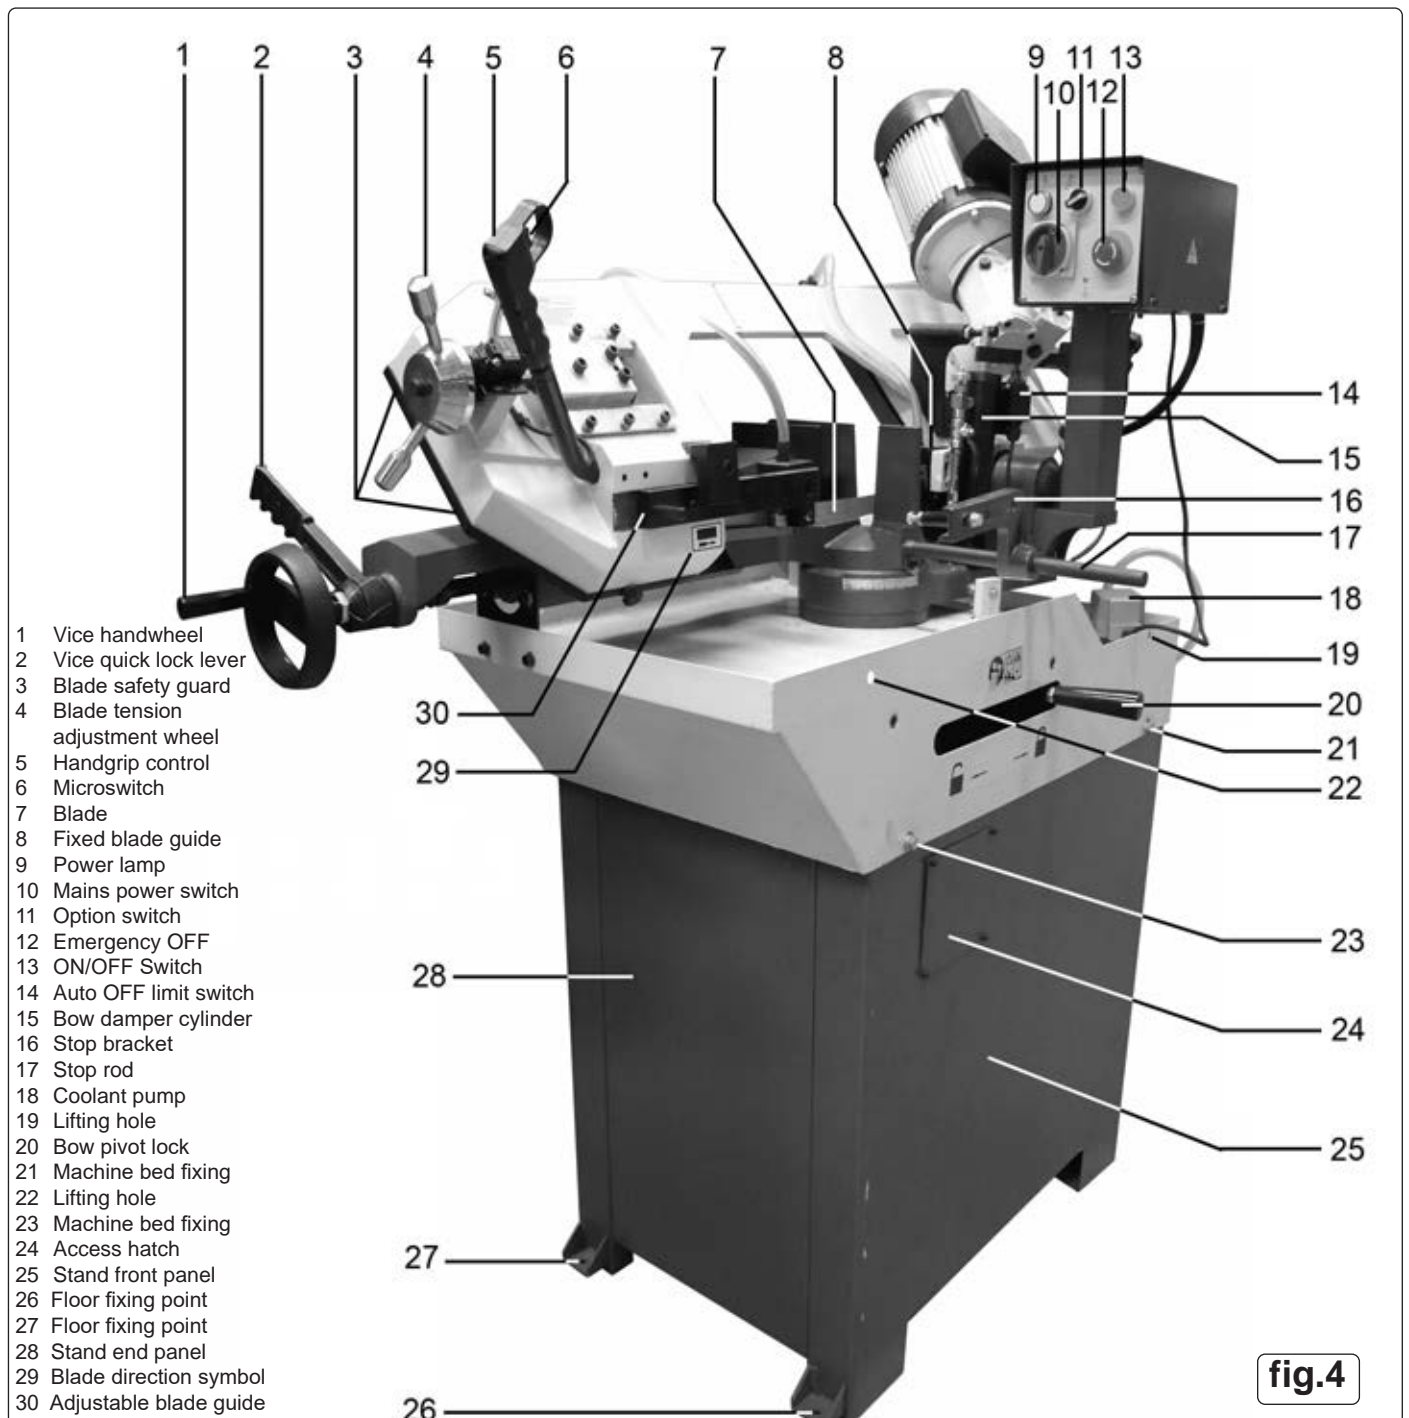

fig.4
- 5.1.2. Coolant is drawn from the coolant tank by the coolant pump (see Fig.4 - 18) and fed through a clear plastic tube to a valve situated on the top edge of the bow casting (see 'J' in Fig.9). When the valve is opened the coolant is fed down two separate pipes which deliver the coolant directly into each blade guide. The coolant is then deposited onto the machine bed where it flows to the lower level and returns to the coolant tank through the grill situated above it for recirculation.
- 5.9.6. When fitting the new blade ensure that it is the correct way round so that the teeth are cutting left to right as you face the machine. See blade tooth label on the front lower part of the bow casting. See 29 in Fig.4 .
- 6.6. Before starting the machine ensure that the bed cannot rotate by moving the lever on the front face of the machine bed to the locked position i.e. fully over to the right. (See 20 in fig.4).
- 6.8. Using switch (3) select whether the machine will turn on with the Start Button (4) on the control panel or the handgrip switch. See (6) in Fig.4.
- 6.14. In order to start the machine with the hand grip switch (See 5 in Fig.4) the selection switch on the control panel (See 3 in Fig.15) must be turned to the hand grip symbol.